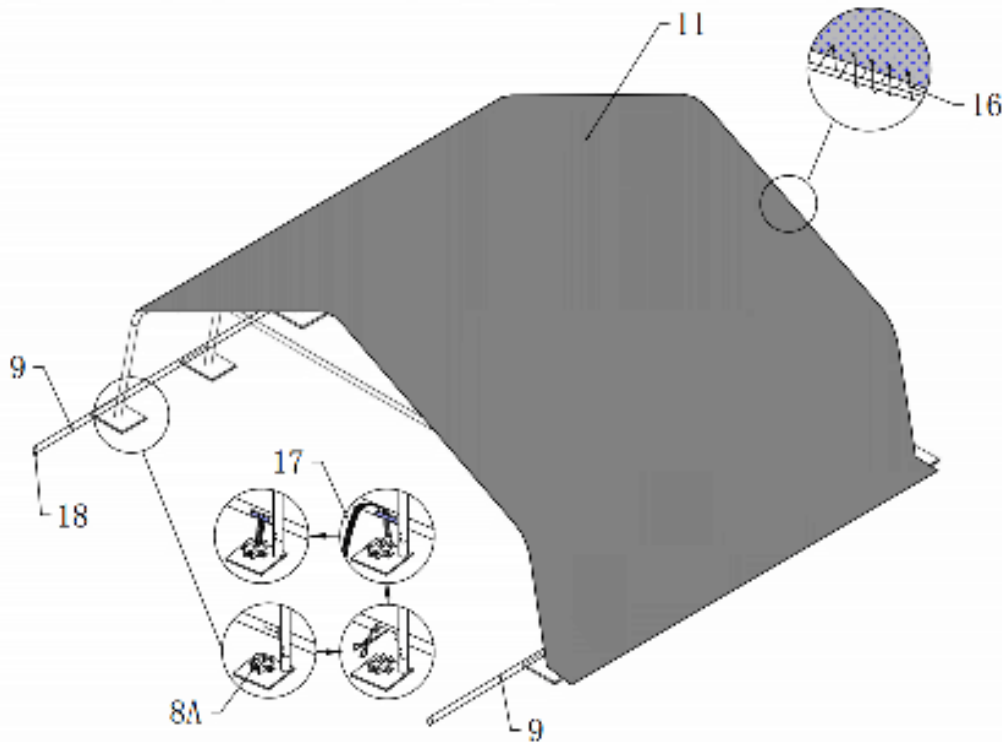

Figure 7
3. Cut 3 pockets according to the position of the base plates and insert the Lower Tension Tubes (part code 9) into the pocket of roof cover. Then use the Ratchet (part code 8A) to fix the Lower tension tubes like the **Figure 7**. Finally install the Plastic plug (part code 18) for into two ends of the Lower tension tubes. Loosely secure the Nylon Band (No.17) in the ratchet on the base plates. **DO NOT TIGHTEN**. Finally adjust the cover so that it is square and evenly centered on the frame.